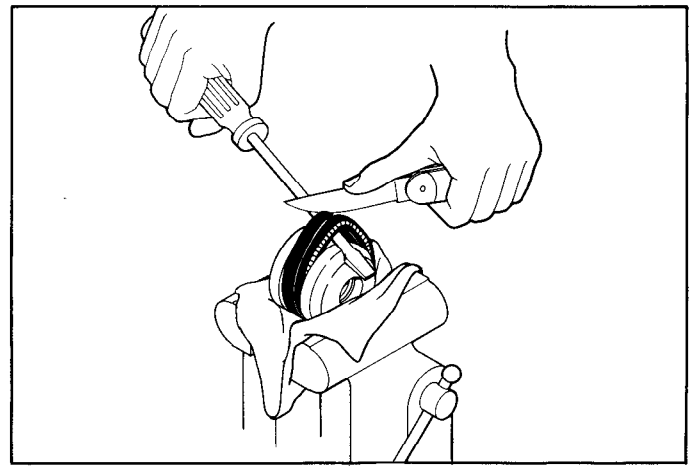

Figure 9. Cut Seal
- Remove the back-up ring from the piston. To remove the seal, place the piston in a soft-jawed vise, pry up the seal with a blunt screwdriver, and cut the seal with a knife. See Figure 9.